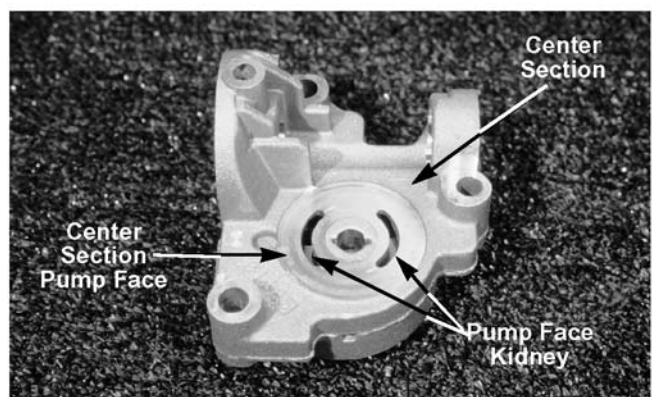

Figure 6-146
- F. Pump face kidney (each kidney port has a passage through the center section to the motor face kidneys See Figure 6-146.